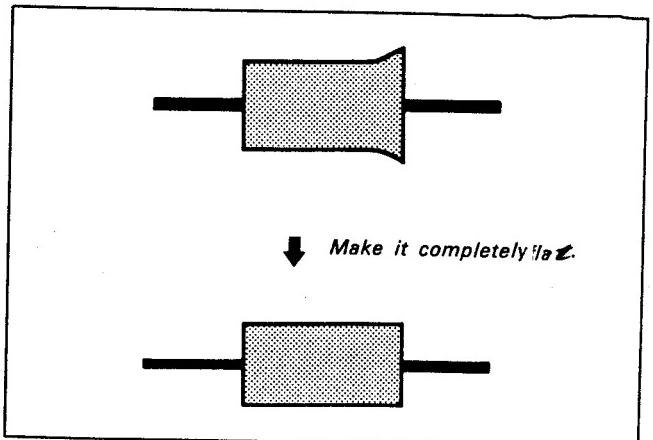

Fig. 4-16
- 6) Turn No.4 guide so that waveform flat. (Fig. 4-16)